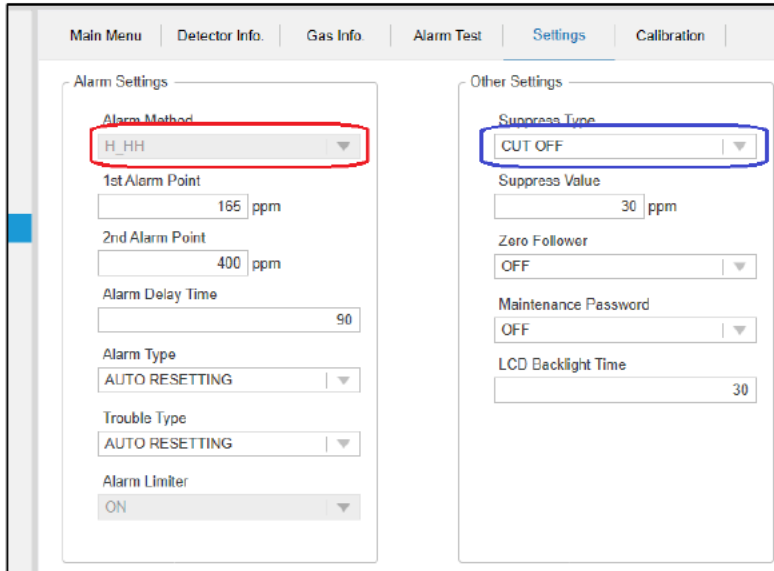

Figure 6-3 Parameters that can and cannot be set (confirmation only)
- ① Use the tree menu and tabs to display the parameters to be set. Parameters that can be set are displayed with active text boxes. Parameters that can't be set (confirmation only) have disabled text boxes. (The blue box in Figure 6-3 indicates a parameter that can be set. The red box indicates a parameter that can only be confirmed.)